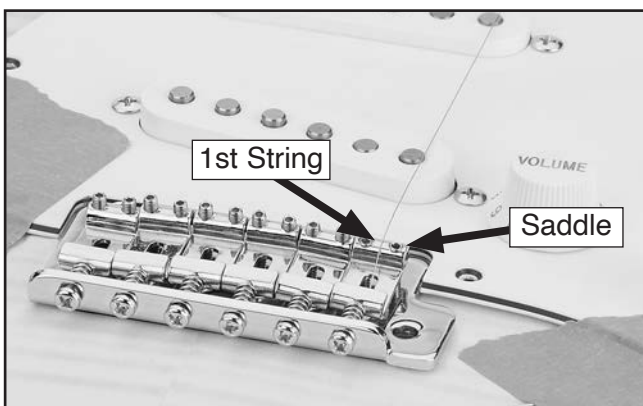
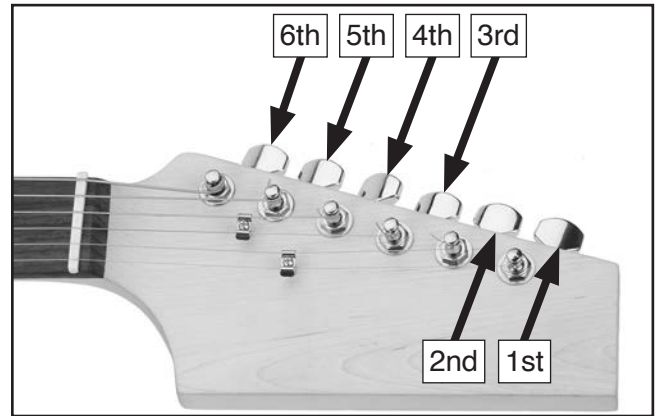

Figure 21. Example of 1st string installed.
Figure 22. String installed in tuning machines.
1. Slide 1st string through corresponding hole in tremolo bridge (see **Figure 21**).
2. Guide string through tremolo bridge, across saddle (see **Figure 21**), over nut, and through hole in corresponding tuning machine (see **Figure 22**).